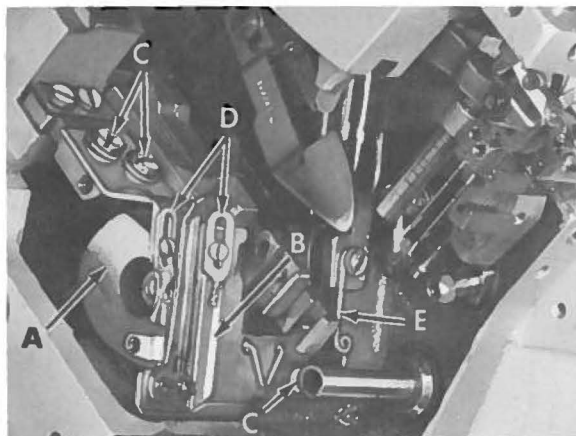

Fig. 20
Check alignment of looper thread take-up (A, Fig. 20) in slot of cast-off support plate (B), which should be centered horizontally and vertically. Should adjustment be necessary, loosen screws (C), reposition plate (B) as required while rotating handwheel several revolutions. Tighten screws (C) securely.
With the needle head at the top of its stroke, the long flat of looper thread take-up (A, Fig. 20) should be positioned to begin taking up slack of the looper thread (long flat parallel to cast-off support plate). It may become necessary to slightly advance or retard take-up later, to produce a satisfactory 401 stitch.
The adjustable eyelets (D, Fig. 20) partially determine the amount of looper thread that goes into the stitch. When set at their lowest position, the maximum amount of thread is drawn. Initial setting should be 1/8 inch (3.18 mm) from the highest position. They may be lowered to put more looper thread into the stitch as required.
Set pigtail eyelet (E, Fig. 20) initially at the six o'clock position. Vary this position slightly, if necessary, until the 401 looper thread is taut when the needles reach their highest position.